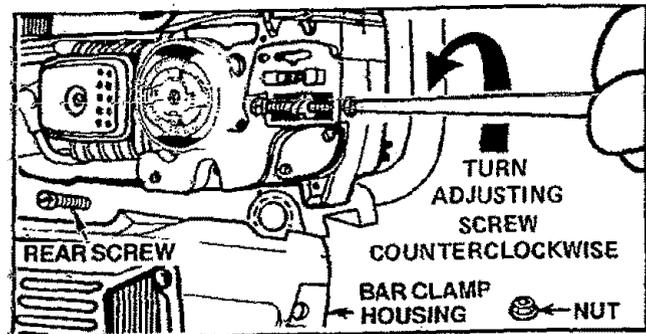

Figure 6
- Remove the following parts as shown in Figure 6, using the Bar Adjusting Tool and Hex Wrench provided with the unit.
- Turn the Adjusting Screw counterclockwise ← to move the Adjusting Pin almost as far as it will go to the rear. Figure 6.